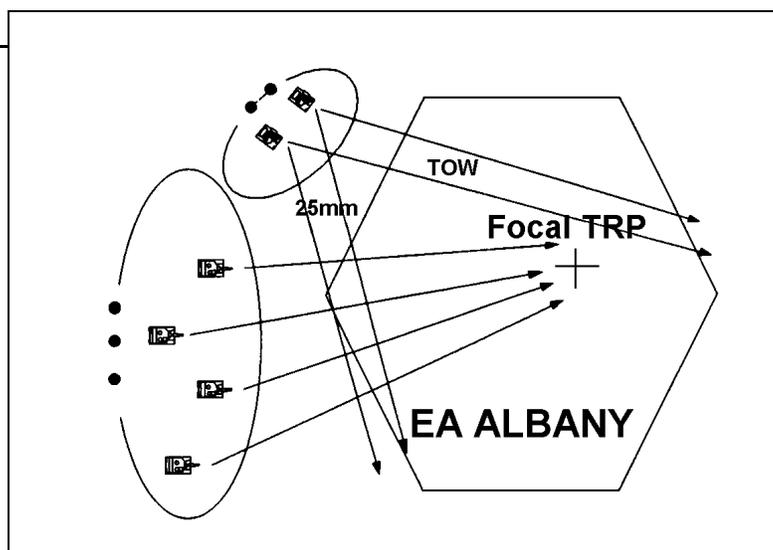

Figure 2. Planning for Weapons Positions
- **Bradleys:** They have two weapons systems, TOWs that can outrange your tanks, and a cannon that can provide final protective fire while you withdraw. Plan for both. The 25mm is a very destructive weapon when controlled by those who know how to use it, and our 19Ds know (Figure 2)!